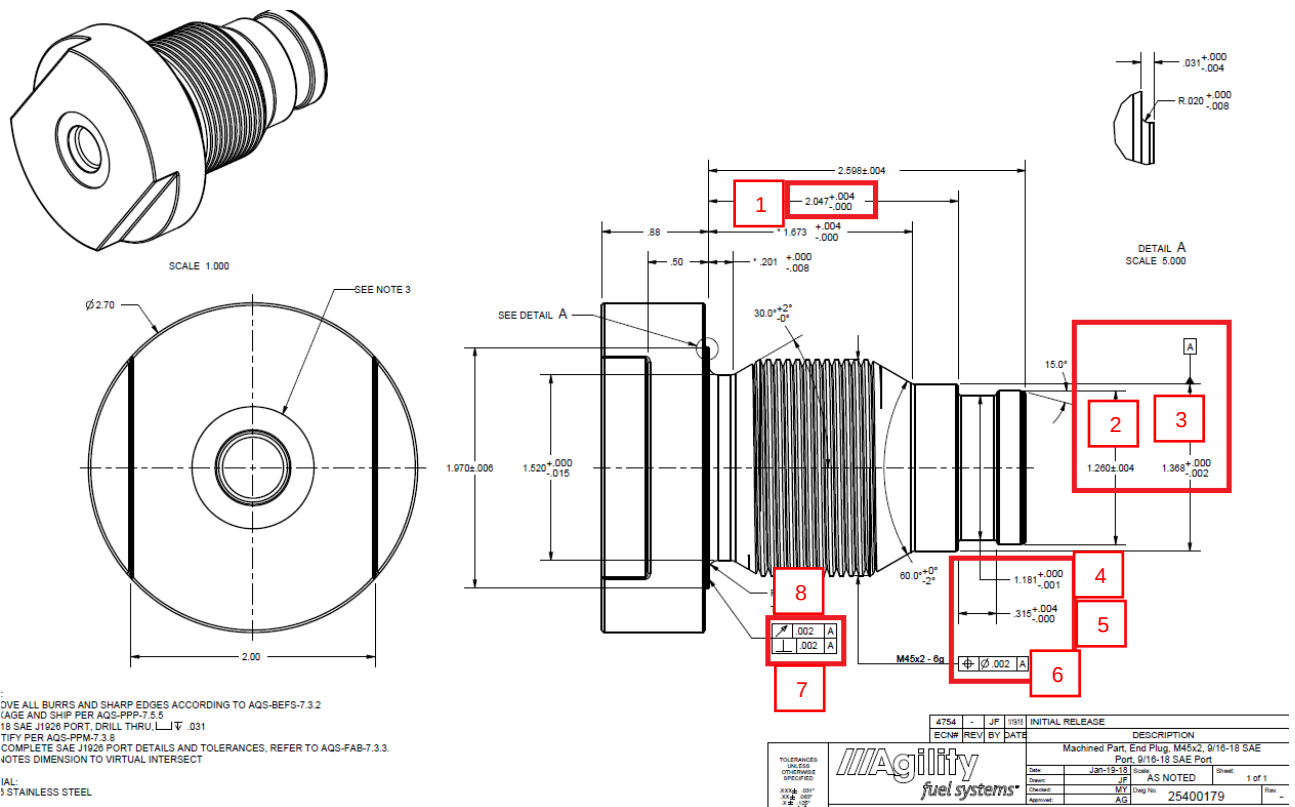

Figure 6. Adapter fitting measurements.
- Record measurements for each of the 6 adapter fittings as per Figure 6 below.